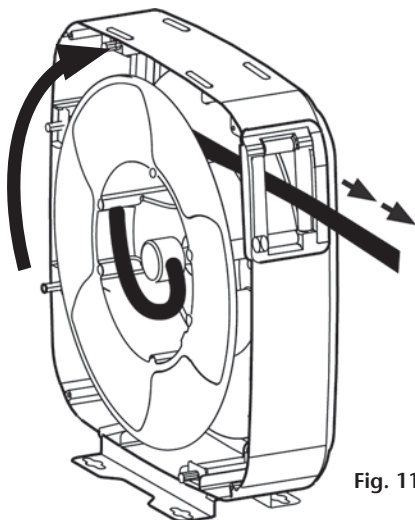

Fig. 11
1. Pull the hose out 10 feet (3 metres) and let the hose reel latch (fig. 11).
1. Extraer unos 3 metros (10 pies) de manguera y trincar la manguera (fig. 11).